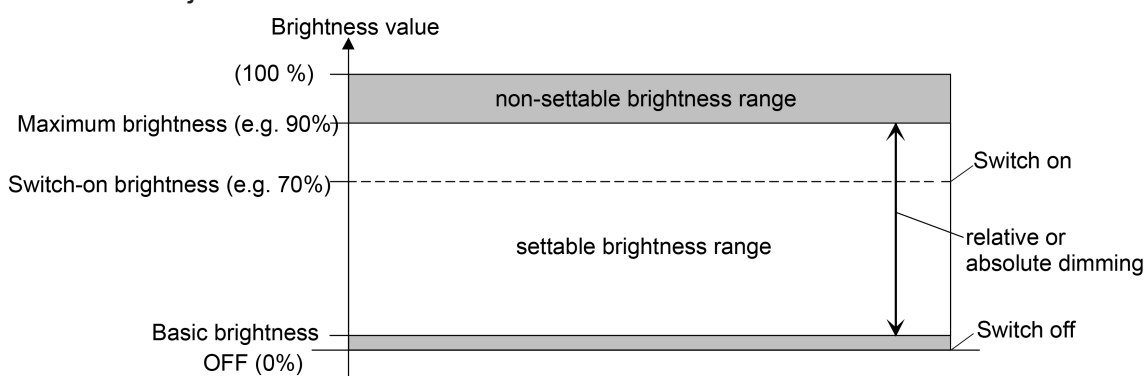

Figure 11: Example of a brightness range with basic brightness
- Definition of the lower brightness limit with basic brightness (see figure 11):